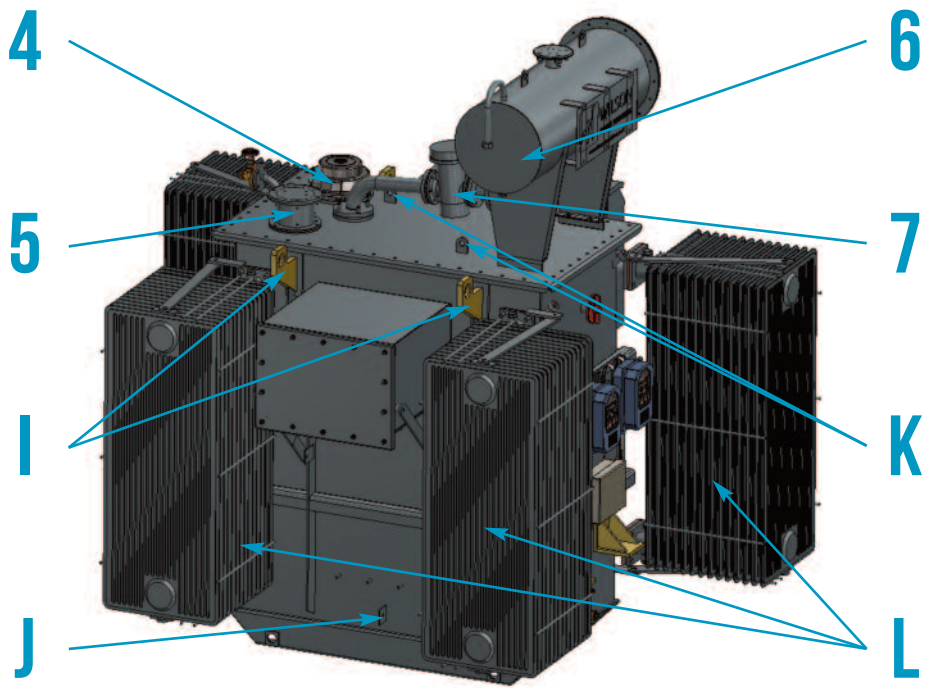

Figure 1b - Transformer View from LV Side
- I.** Transformer lifting eyes (Figure 1b)
- J.** Tank earthing terminals (Figure 1b)
- K.** Transformer lid lifting eyes (Figure 1b)
- L.** Radiators (Figure 1b)
- 4.** Pressure relief device (PRD) (Figure 1b)
- 5.** Current transformer connection box (Figure 1b)
- 6.** Conservator (Figure 1b)
- 7.** Buchholz relay (Figure 1b)